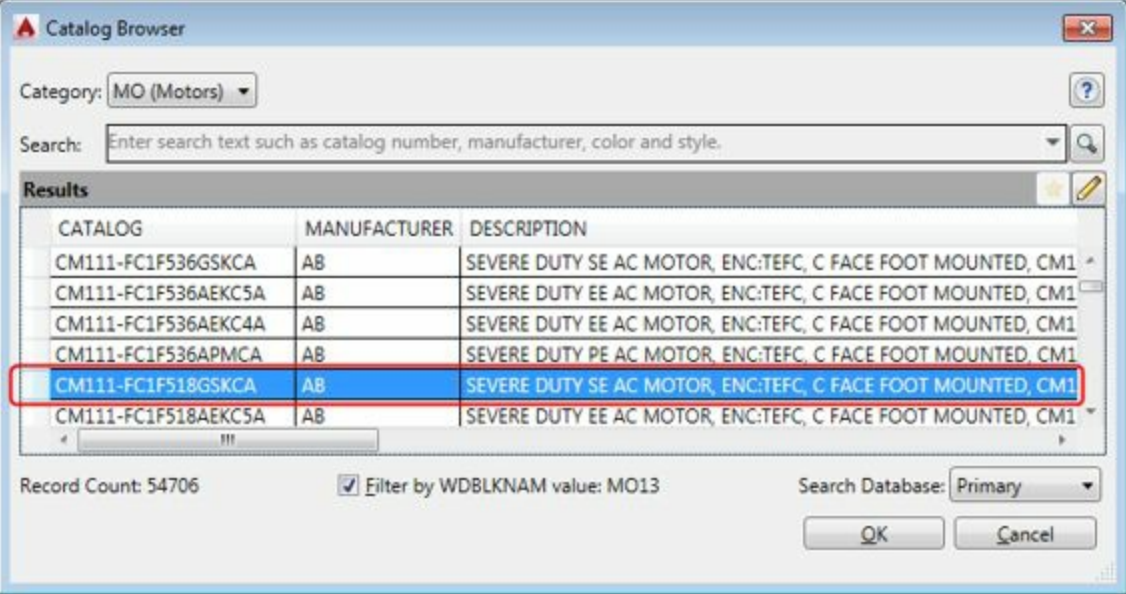

Figure-11. Motor to be selected
- Select the **CM111-FC1F518GSKCA** field under the **CATALOG** column from the **Catalog Browser**; refer to Figure-11. Note that this is a 3 Phase 1.5 HP motor with 1800 RPM speed.